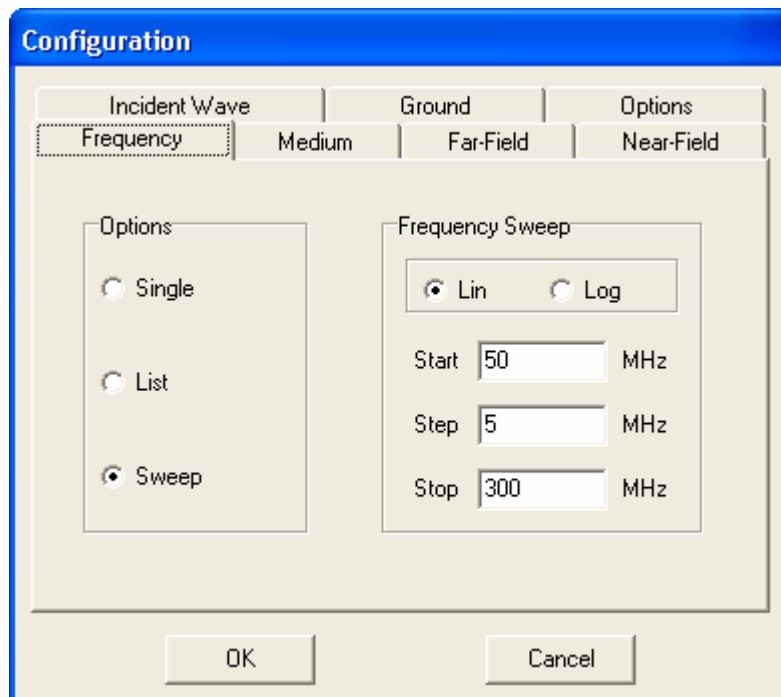

Fig. 14.1: The Frequency page in the Configuration dialog box. The computation will be performed at the frequencies: 50, 55,..., 295, 300 MHz.
Step 1: Choose Edit/Preferences in the main menu for selecting suitable units for frequencies and lengths. In this case, frequencies will be measured in MHz and length in mm. Then, go to Simulate/Configure... in the main menu. In the Frequency page of the Configuration dialog box choose Sweep and fill the Frequency Sweep box as shown in Fig. 14.1.